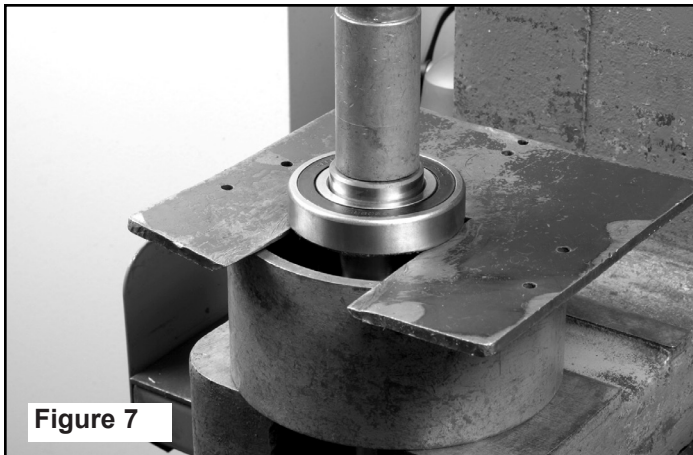

Figure 7
4. Support the bearings only in a press to remove from the shaft. Use a snap ring pliers to remove retaining rings, if necessary (See Figure 7).